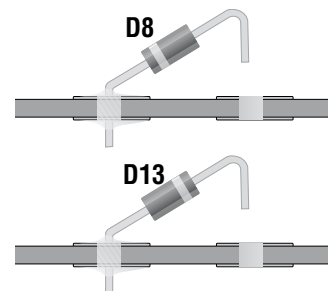

Figure 1. Lift the anode end of D8 and the cathode end of D13 from the circuit board. Leave the open holes clear so the mute module can be inserted from below.
5. Unsolder and lift the cathode lead of D13 from the circuit board. Do the same with the anode lead of D8. With solder braid or desoldering equipment, clear the solder from the open holes. See Figure 1.